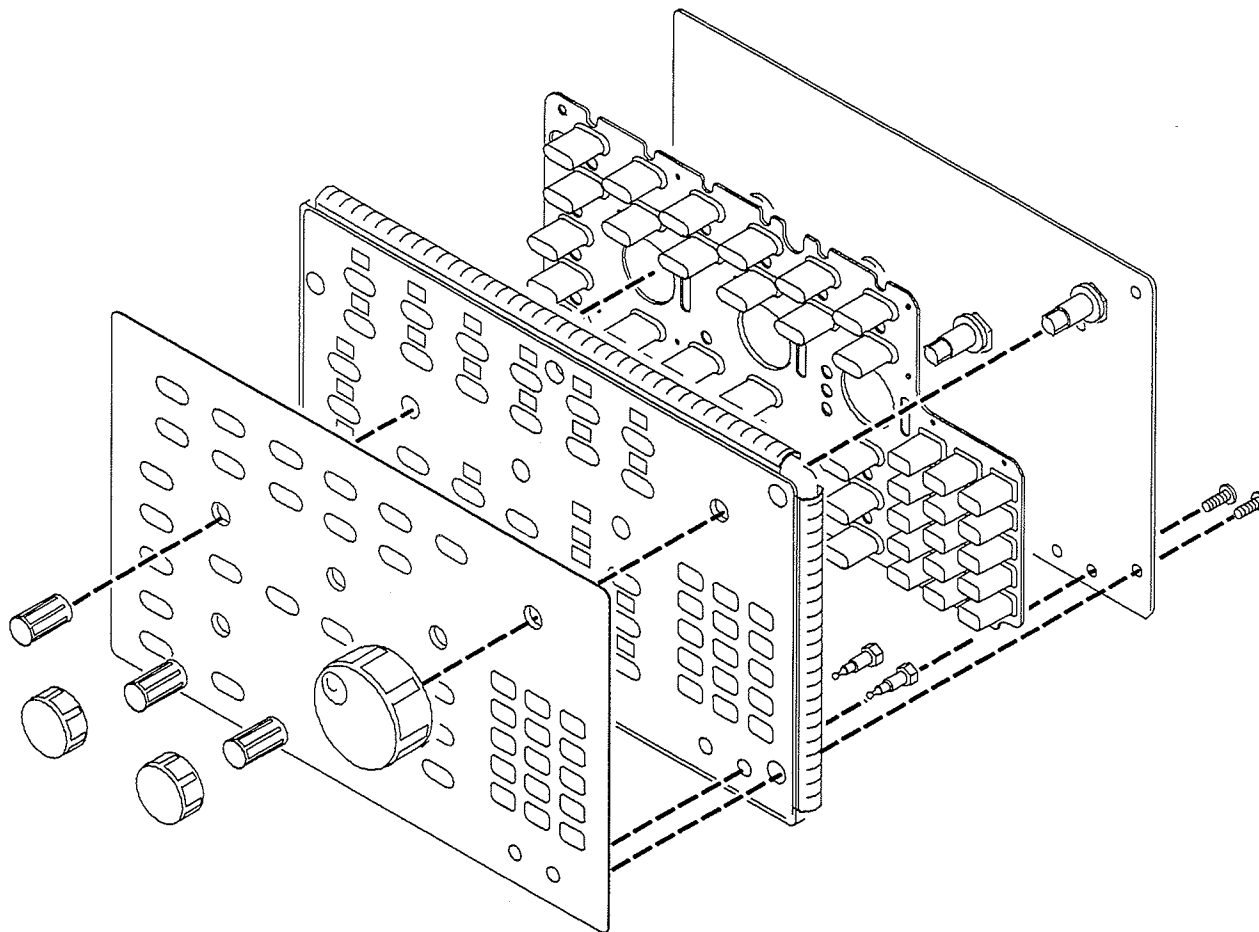

Figure 6-9: Disassembly of Front-Panel Assembly
- c. Now hand disassemble the front-panel assembly components using Figure 6-9 as a guide. Reverse procedure to reassemble, using the same Figure 6-9 as a guide.
6. *Reinstallation:* If the front-panel assembly was further disassembled in step 4, then reverse substeps 4a–4c to reassemble, using Figure 6-9 as a guide. Then do in reverse order steps 3 and 5, reversing the procedure outlined in each step. Last, reinstall the trim ring and, if desired, the front cover, referring to the procedure *Front Cover, Trim Ring, Menu Buttons, and Attenuator Panel* (page 6-22).